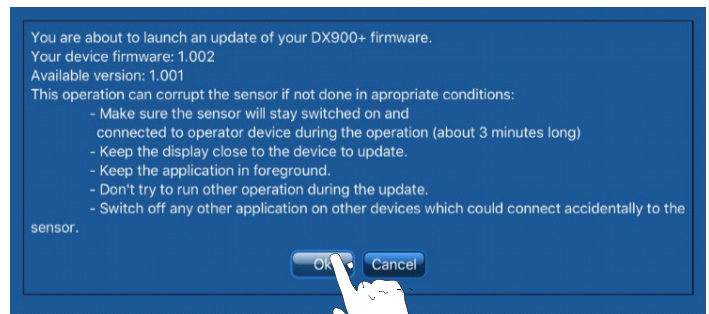

Figure 32. Update Firmware
- Carefully read the information on the dialog box to identify (Figure 32):